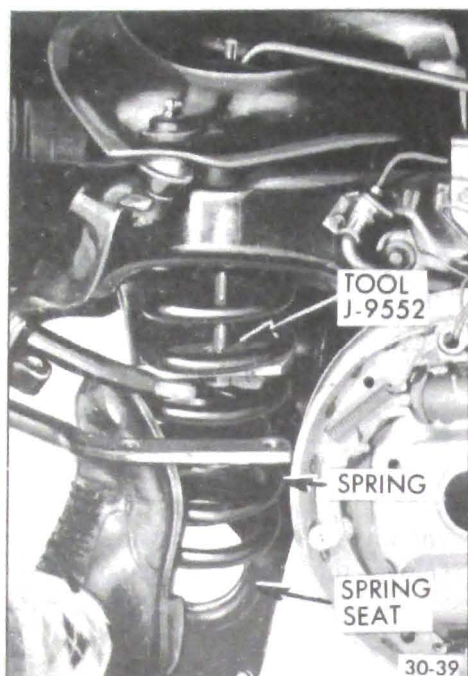

Figure 30-41 - Pushing Spring Onto Lower Control Arm Seat
6. Force the spring on its seat in the lower control arm as shown in Figure 30-41. Remove tool. Rotate spring on arm until it is seated properly.